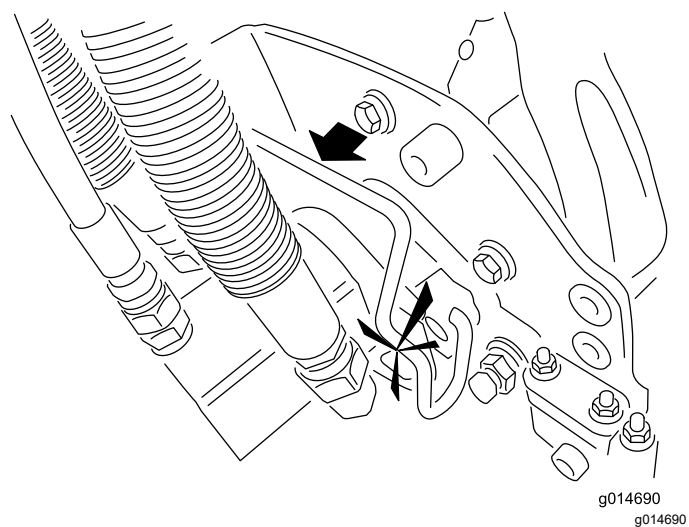

Figure 56
- 6. Insert the motor into the left side of the cutting unit (as viewed from the operator's position) and pull the motor retaining bar on the cutting unit toward the motor until you hear a click from both sides of the motor (Figure 56).